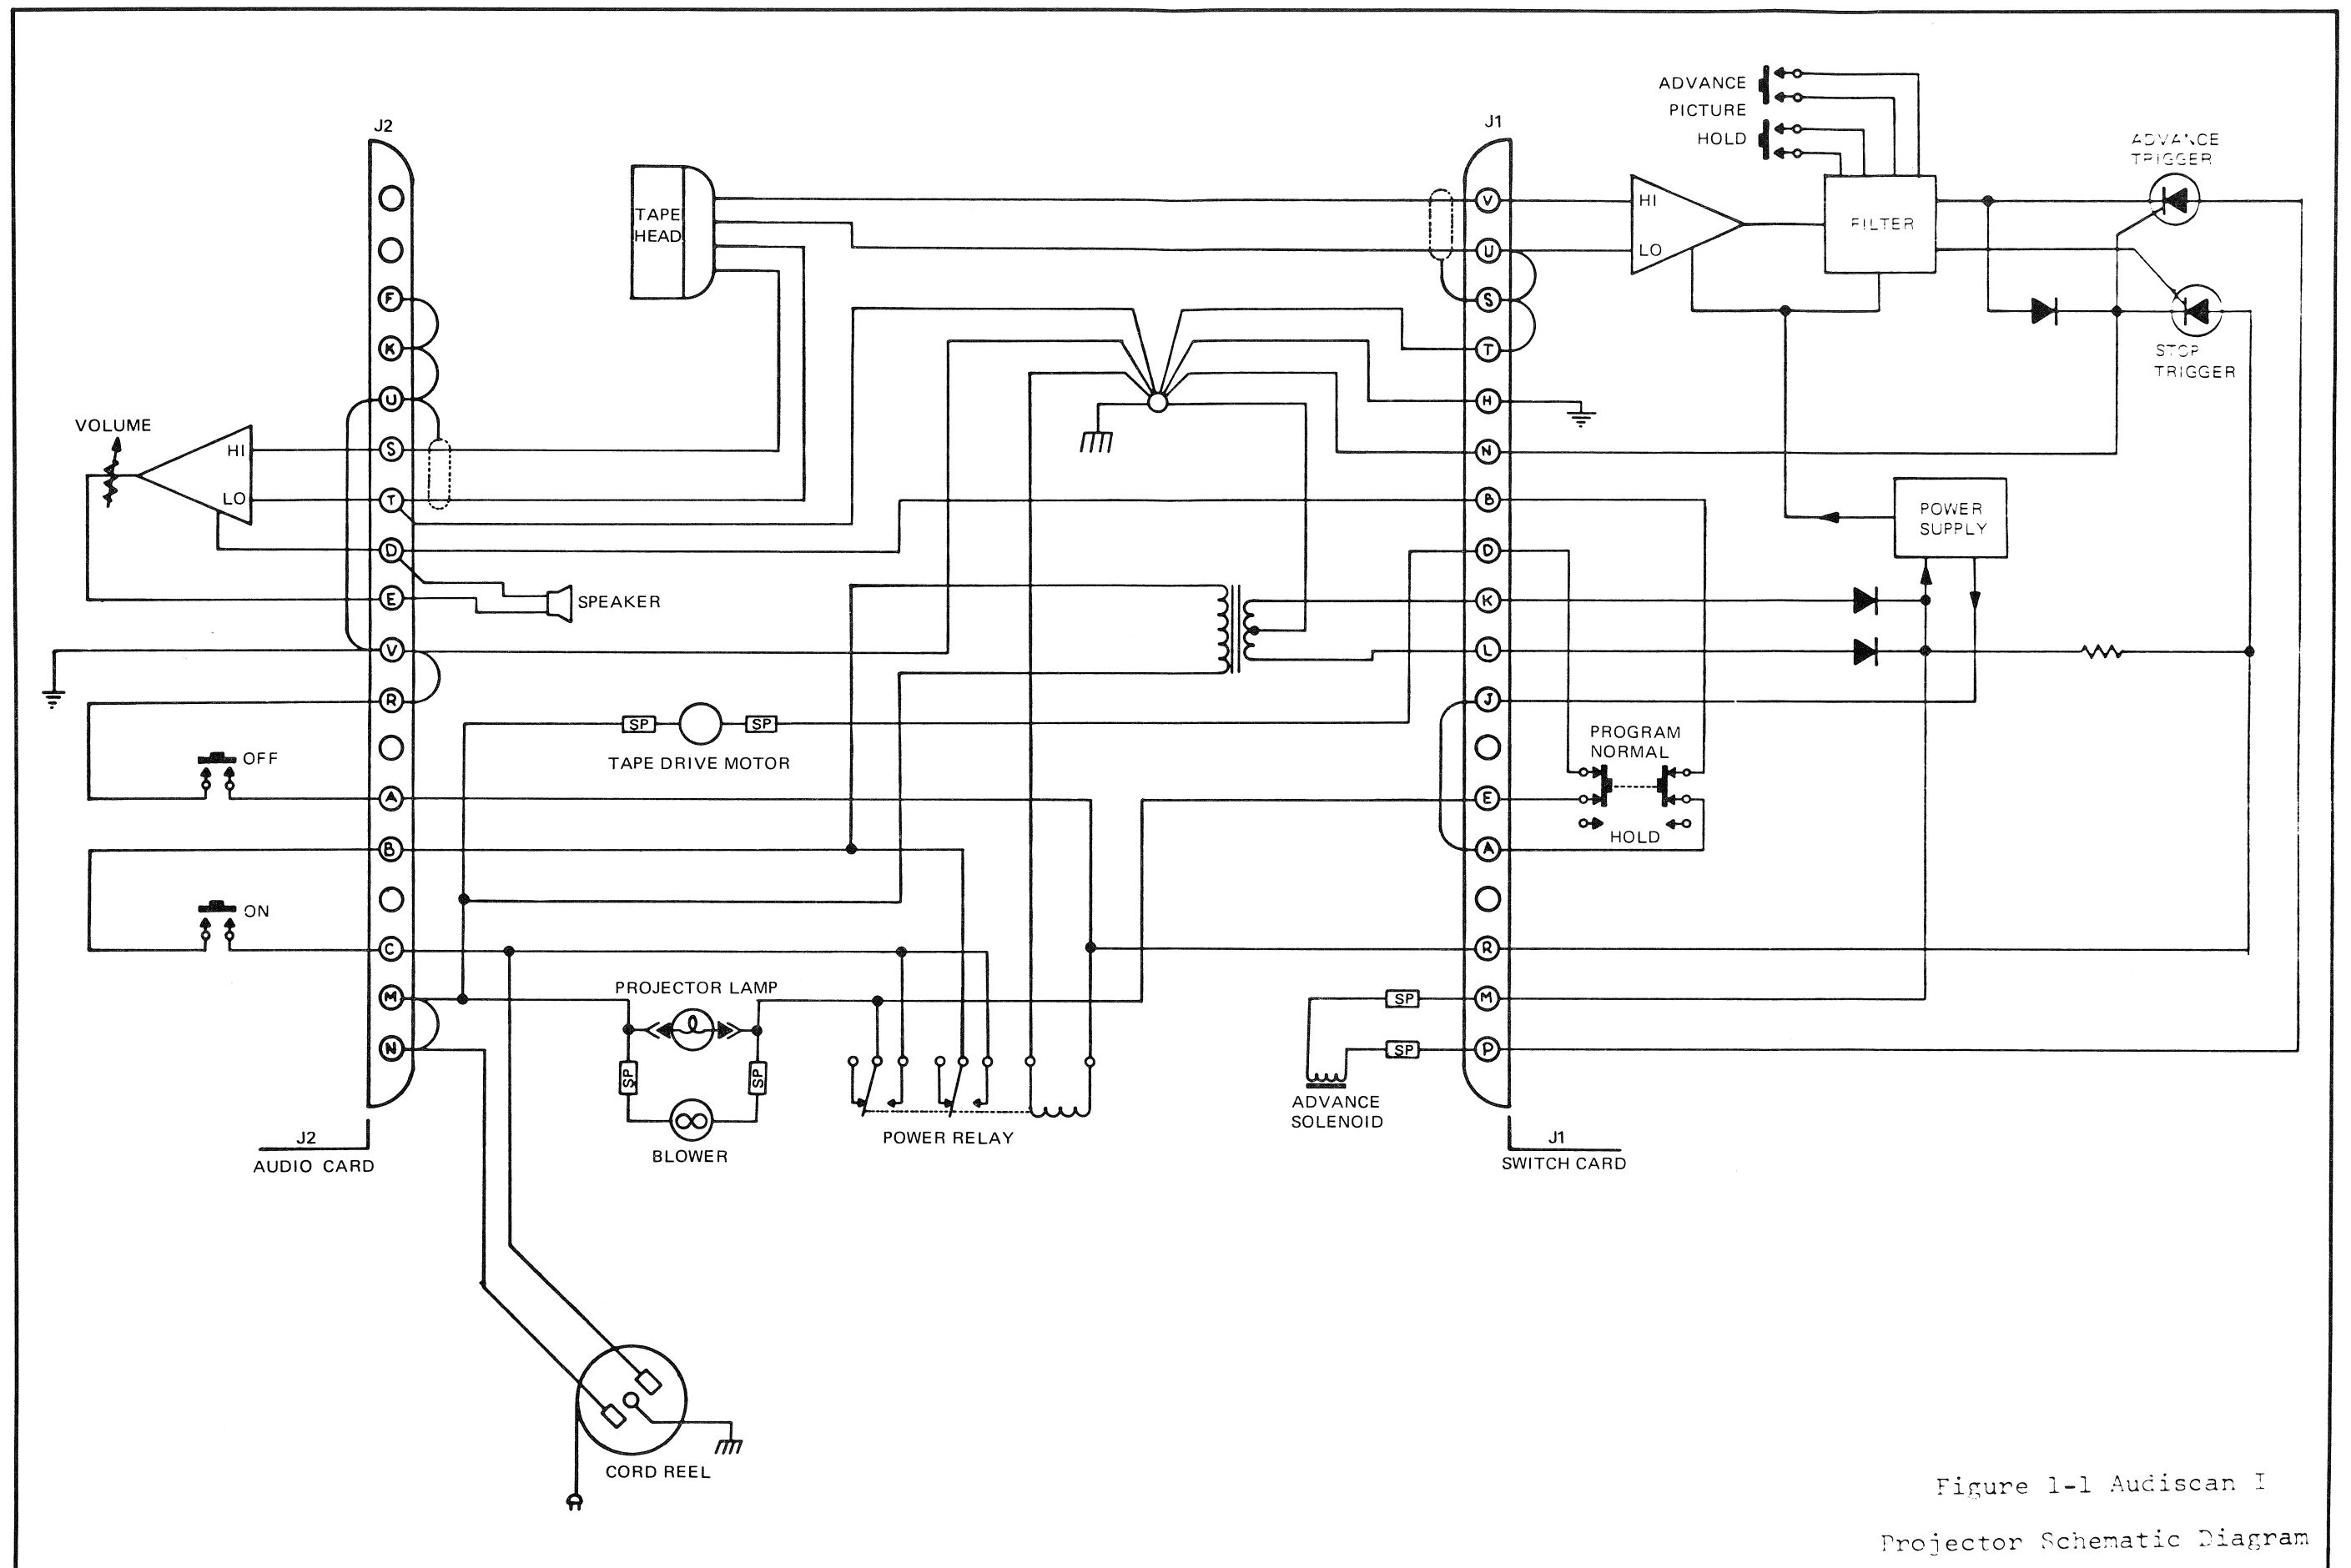

Figure 1-1 Audiscan I
- 1.4 Electrical System; Theory of Operation (Refer to Figure 1-1).
3.1 The troubleshooting section is designed to aid the technician in locating a defective component or assembly by reference to SYMPTOM, POSSIBLE CAUSE, and REMEDY. In addition, reference to applicable paragraphs in Section IV are listed in the REMEDY column for removal, replacement, and adjustment procedures. Before attempting to clear any difficult malfunction, perform the continuity checks given in Table II to ensure internal wiring is in good order. Any type of reliable ohmmeter may be used. When making continuity checks, refer to Figures 1-1 and 1-2.